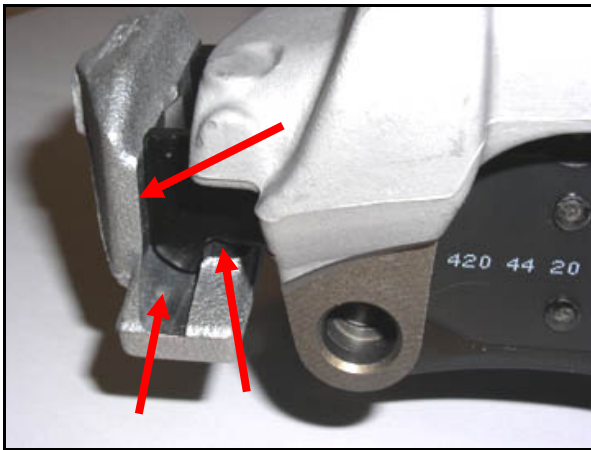
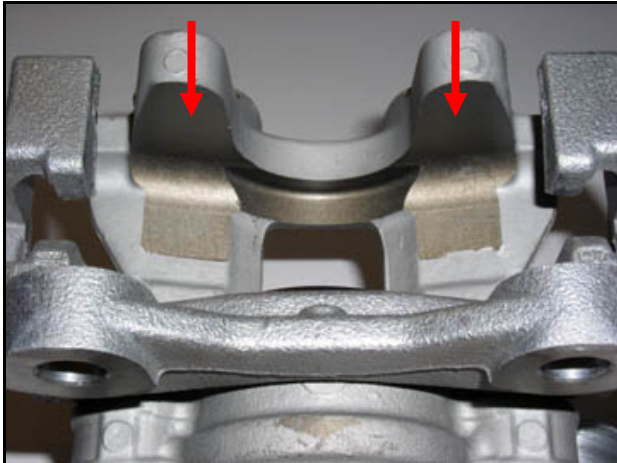

Figure 4
Figure 6
3. Apply brake lubrication (part no. BQ142 0001) to the brake pad guides within the brake caliper mounting anchor (Figure 4, arrows), guide elements of brake pads (Figure 5, arrows), and to the caliper in the area where the **outer** brake pad is in contact (Figure 6, arrows).